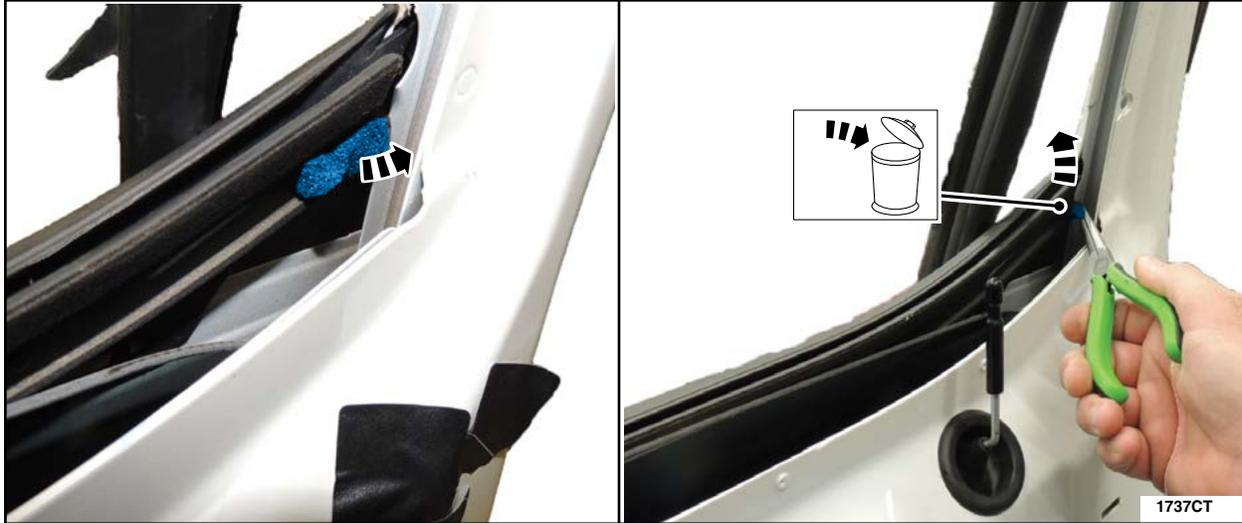

FIGURE 39
11. If present, remove and discard the the two pieces of foam on the driver and passenger side outer belt moulding at the location shown in Figures 39 and 40.